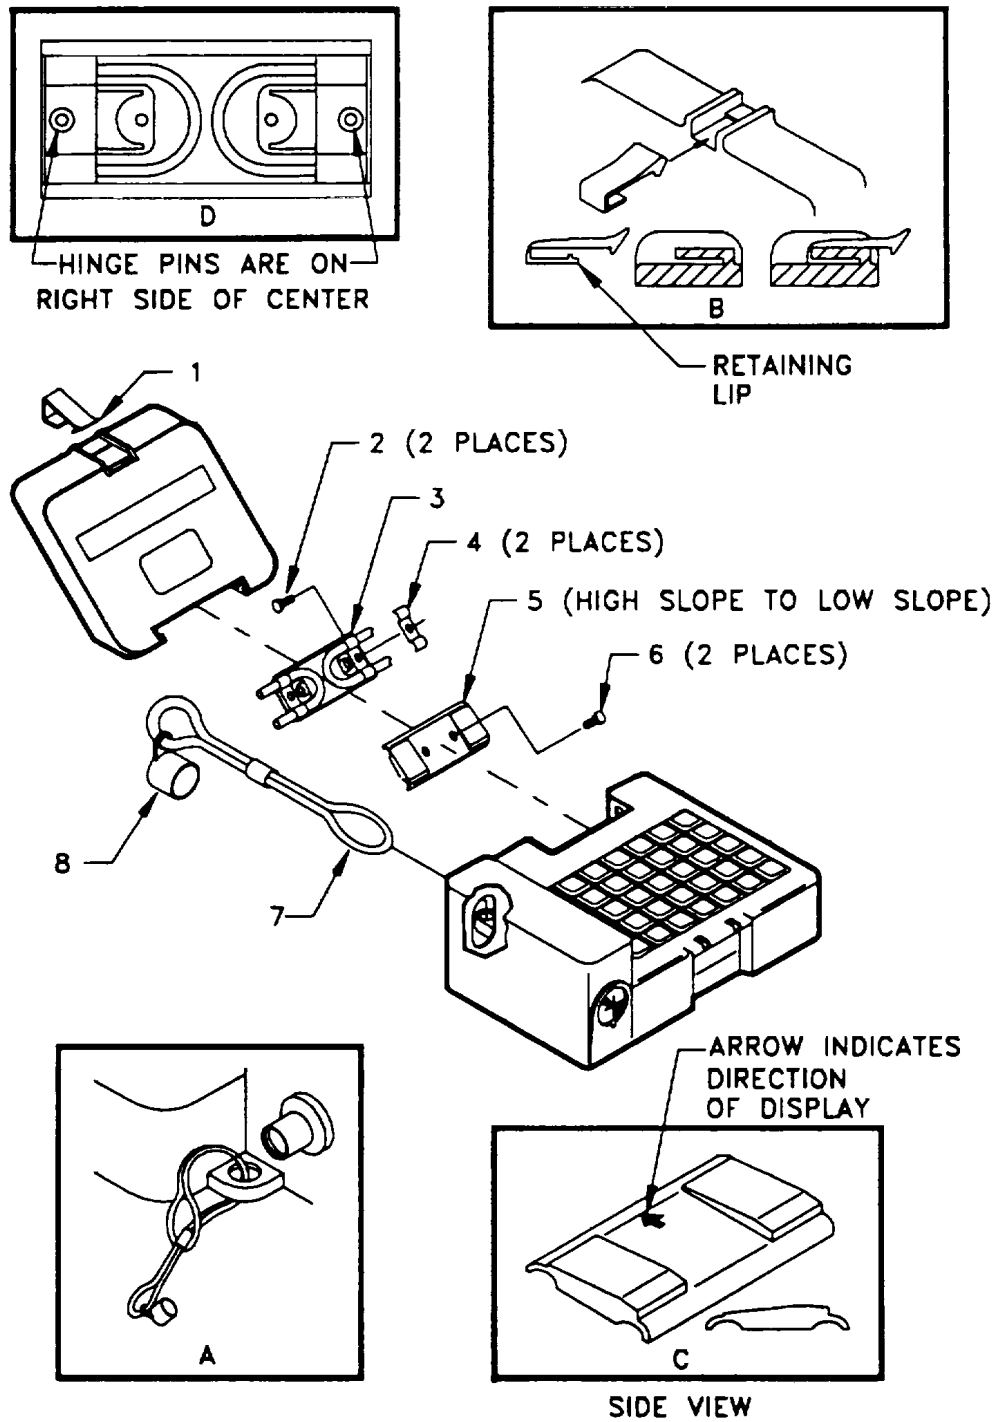
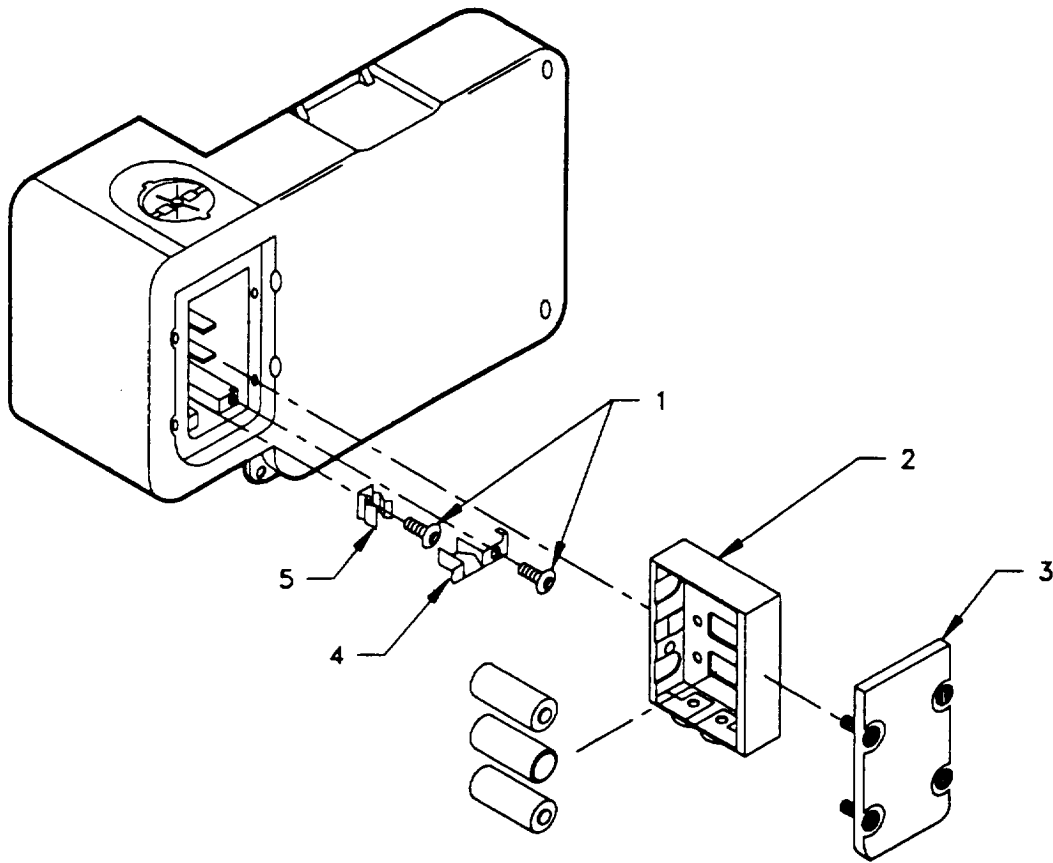

Figure 4-1. Assembly Replacement
Figure 4-2. Housing Battery Contacts
The following paragraphs describe replacement procedures for housing components at Unit level maintenance. Refer to Figure 4-1 for location of parts.
- a. Hinges. The hinge assembly is composed of two hinge cover plates, two springs, and the four screws that are user replaceable. The hinge covers are not interchangeable. The following paragraphs detail the replacement procedures. Refer to Figure 4-1 to replace any part of the assembly.
**(1) Front Hinge Cover**
STEP 2 Using a Phillips screwdriver, remove the two hinge screws (2) holding the top cover (5) onto the hinge assembly.
STEP 4 Install and tighten the two hinge screws (2) into the assembly.
The hinge cover is molded to be installed one way with the little slope facing the top cover, see insert "C" of Figure 4-1; if it is installed backwards the cover will not close. Attempts to close the cover will break the display assembly and the ANCD will have to be replaced. Do not over tighten the screws as damage will occur to the hinge assembly requiring the replacement of one or both cover plates.
- STEP 3 Remove the defective spring (4) and install the new spring. Ensure the hinge is positioned so that the narrow space between the hole is to the outside, see insert "D" of Figure 4-1.
STEP 4 Install the front cover plate (5) over the assembly; insert the two screws (2) and tighten assembly.
**(3) Rear Hinge Cover**
- STEP 1 Remove the front hinge cover plate (5).
STEP 2 Remove the two hinge springs (4).
STEP 3 Replace the defective rear hinge cover plate (3) with a new plate.
STEP 4 Install the hinge springs (4).
STEP 5 Install the front hinge cover plate (5).
- b. Fill Connector Cover. The fill cover assembly is made up of three components; the rubber cover, nylon cord and retaining clip. The assembly is replaced as a complete unit as described below; refer to Figure 4-1 for location of parts.
- STEP 1 Remove the defective fill cap assembly (8) from the ANCD by using a knife to cut the nylon cord (7) at the ANCD housing end; then remove cord and cover from the ANCD housing.
STEP 2 Lace the replacement cord through the ANCD housing hole, see insert "A" of Figure 4-1.
STEP 3 Loop the rubber boot through the loop in the other end of the cord and pull the cover (8) gently through to compress the knot to the ANCD case.
- c. Latch Snap. To replace a broken cover latch, use the following procedure. Refer to Figure 4-1, and "Insert B" of the figure for part location.
- STEP 1 Using a flat tip screwdriver carefully press on the retaining lip of the latch (1).
- d. Battery Cover(s). To replace the battery cover use the following procedures for replacement. See Figure 4-2 for part location.
STEP 1 Loosen the four captive screws on the cover (2) and lift the assembly off the housing.
- e. Housing Battery Contacts. The battery contacts are unique to the polarity of voltage applied; that is, the positive contact is different in appearance from the negative contact. Both contacts use the same attaching hardware, so the replacement procedure is the same for both contacts as described below refer to Figure 4-2 for location of parts.
- STEP 1 Remove the battery cover (3) and battery holder (2).
- STEP 2 Using a 1/16 inch hex driver, remove the screw (1) from the defective contact (4 of 5).
- STEP 5 Install the hex-screw (1) into the contact and tighten the screw carefully.